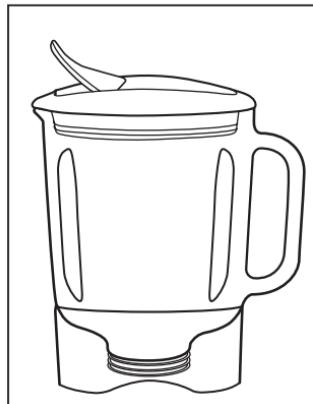

FIGURE 6
(!!) **WARNING:** When you work with HOT FOODS, flip the jar lid open to vent steam. Partially cover the opening keeping hands and other exposed skin away from the lid opening to prevent possible burns. (*Figure 6*)
(!!) **WARNING:** When you work with HOT LIQUIDS, flip the jar lid open and start at a low speed, and gradually increase to a faster speed. Do not add liquid over the 2 cup (.5L) level. Always keep hands and exposed skin away from steam. Start blending at lowest speed. (*Figure 6*)
- Do not remove the lid while in use. Flip the jar lid open to add smaller ingredients. (*Figure 6*)